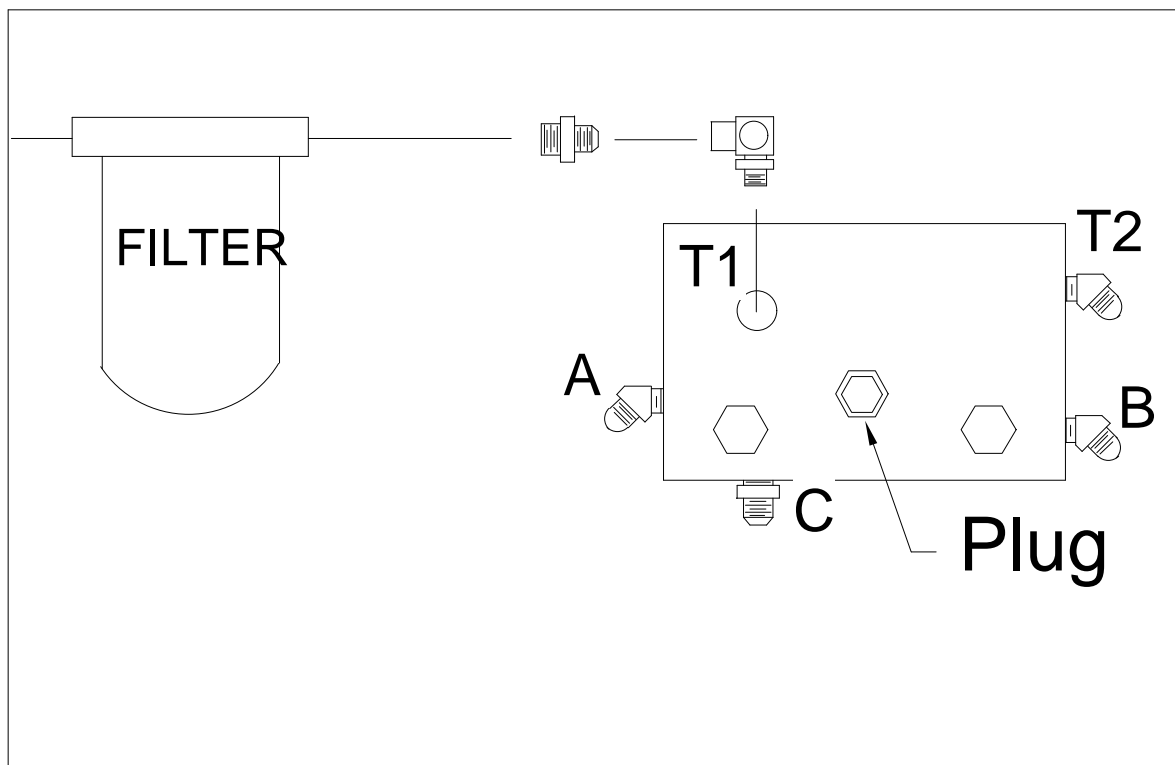

Figure 1
3. Remove the plug from the valve as shown in Fig. 1. Screw in the electric solenoid with cartridge. Secure.